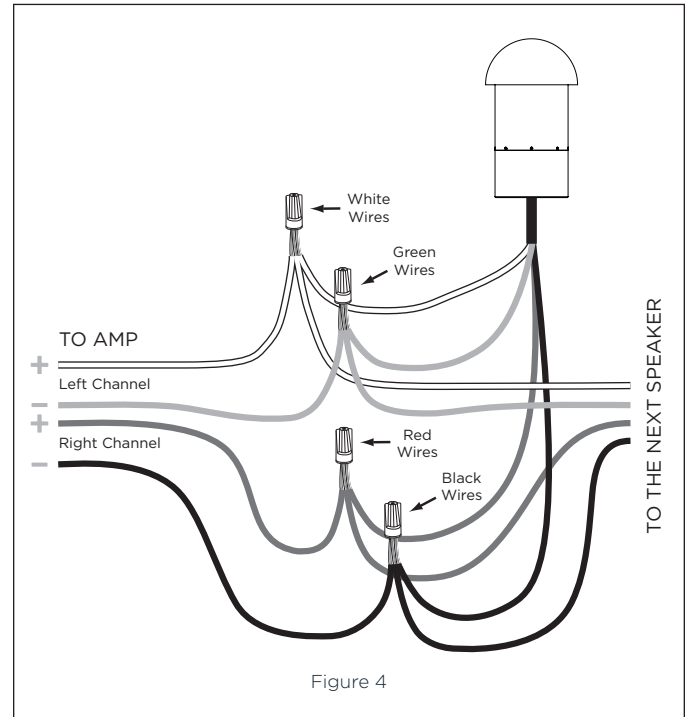

Figure 4
4. Take the spool back to the starting point and pull a second 2 conductor wire to the furthest speaker location and repeat steps 1 and 2 (see Figure 4).
The subwoofer features a dual voice coil driver with four wires, one pair for each of the amplifier channels. red (+) and black (-) are used for the right channel, white (+) and green (-) for the Left channel. The subwoofer can be connected at any point along the daisy chain e.g. beginning, middle, end or anywhere in-between. However, locating the subwoofer mid-way in the daisy chain will produce an equal amount of bass for the speakers on either side of the sub. The subwoofer needs to be connected in the same manner as the satellites speakers (see Figure 4).